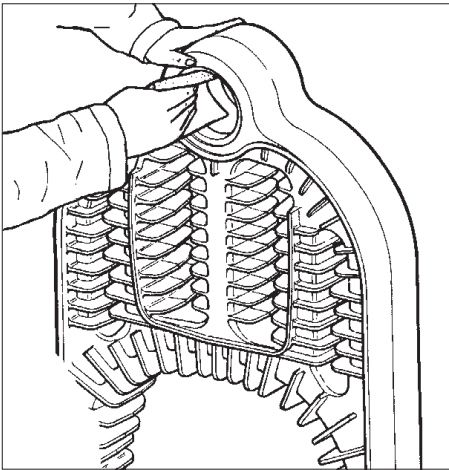

Fig. 6
4.02 (Fig. 6) Use fine glasspaper to thoroughly clean the housing of the link on the rear element and of all other elements forming the boiler unit.